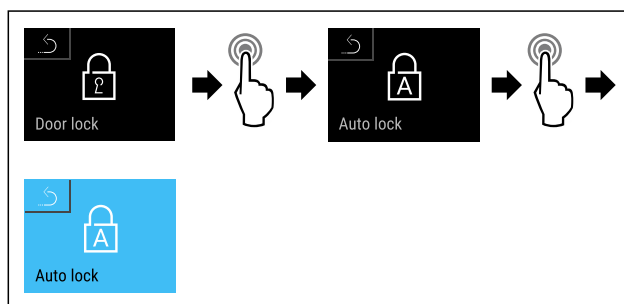

Fig. 80
- ▶ Complete steps (see Fig. 80) .